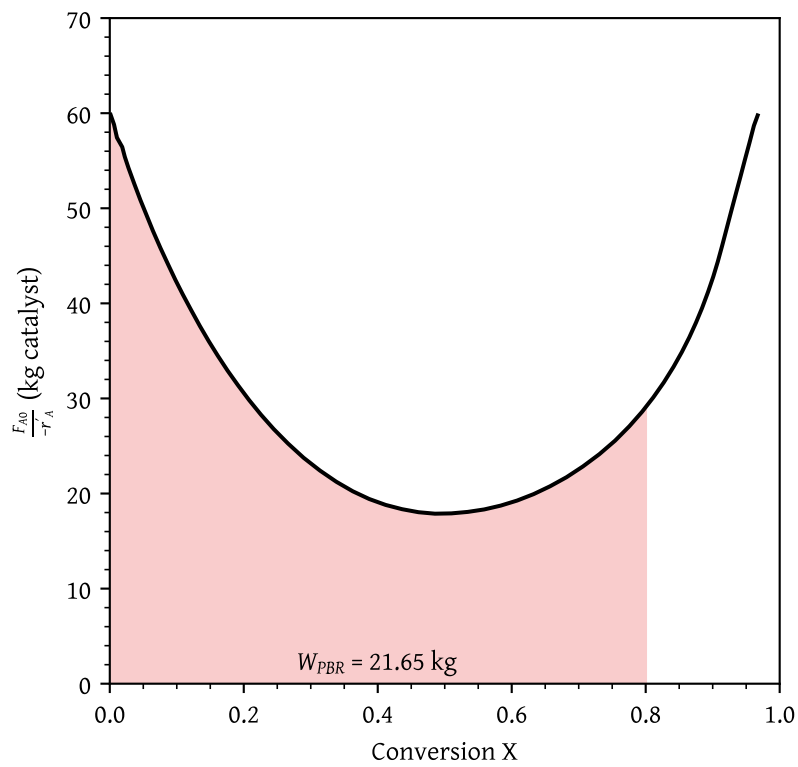

Figure 26: Catalyst weight for 80% conversion in PBR
- What PBR weight is necessary to achieve 80% conversion? (Figure 26)